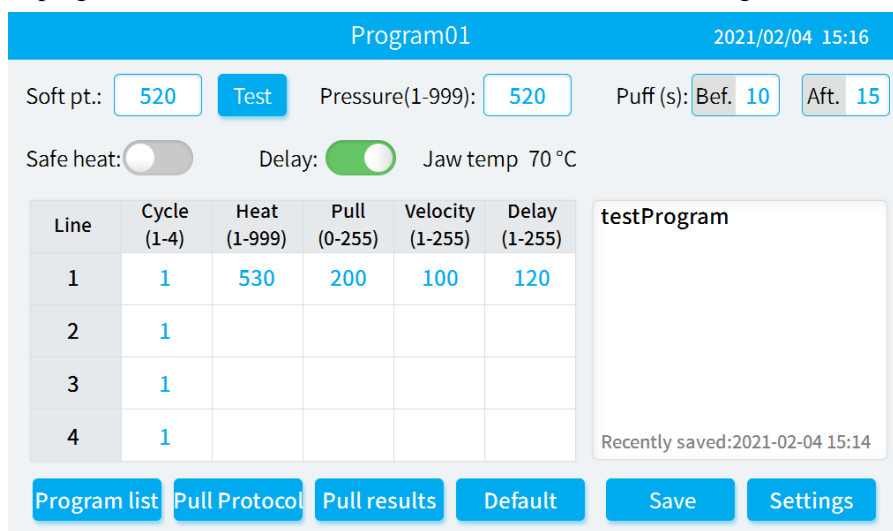

Figure 4-2
Wait 30s for the progress bar to load, enter the [Main Interface], as shown in Figure 4-2.
- 1) Click on the [Main Interface] as shown in Figure 4-2 to enter the [Softening point test] interface, as shown in Figure 4-4.
- 5) Click **OK** to enter the [Main Interface] shown in Figure 4-2, and the current softening point test value will be automatically filled in the softening point input box.
Click **Save** on the [Main Interface] as shown in Figure 4-2 to save to the current program or save as a new program.